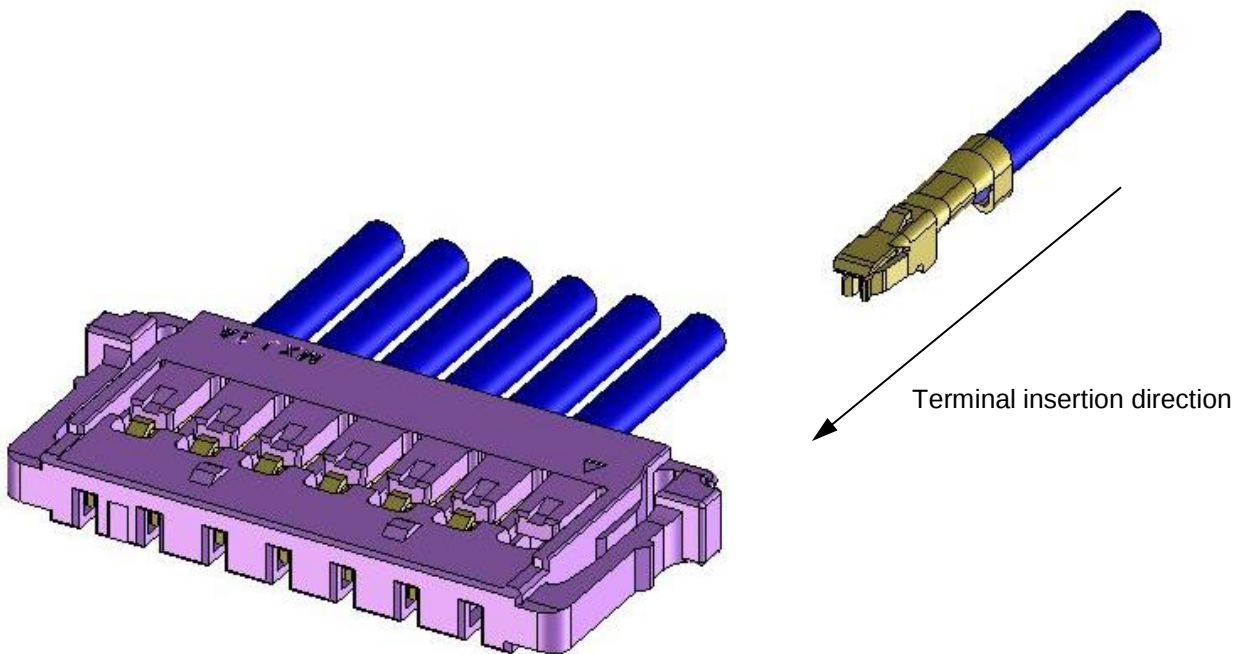

Fig. 6-1
- ③ Picking with terminal lance part toward center of receptacle housing, please insert terminal slowly and straightly till the tip of terminal touch housing (with force of around 1.6~2.4N). **(Fig.6-1)**